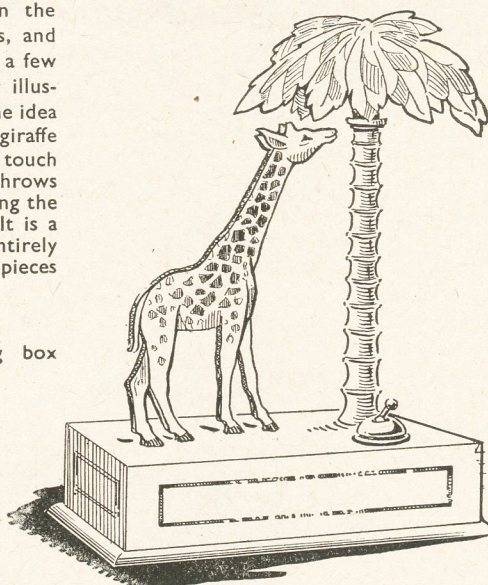

Fig. 1—The completed lamp with switch
**H**ERE is another novelty in the way of electric table lamps, and one that can be made from a few pieces of wood and metal. Our illustration, Fig. 1, shows at a glance the idea of the lamp. A docile looking giraffe stands beneath a palm tree. At a touch of the switch below, it lights and throws a mellow green light around, making the animal stand out in bold relief. It is a simple piece of work, almost entirely made with the fretsaw from some pieces of  $\frac{1}{4}$  in. wood.
In addition to this shaping, the 'tree' may be realistically carved to give the appearance of a palm, as depicted in Fig. 1. (E) and (F) are given full-size. This grooving work can be done with a half-round rasp and file and finished smooth with glasspaper. When the 'tree' trunk is completed, glue the tenons into the top of the box and allow to harden before proceeding further with the work.